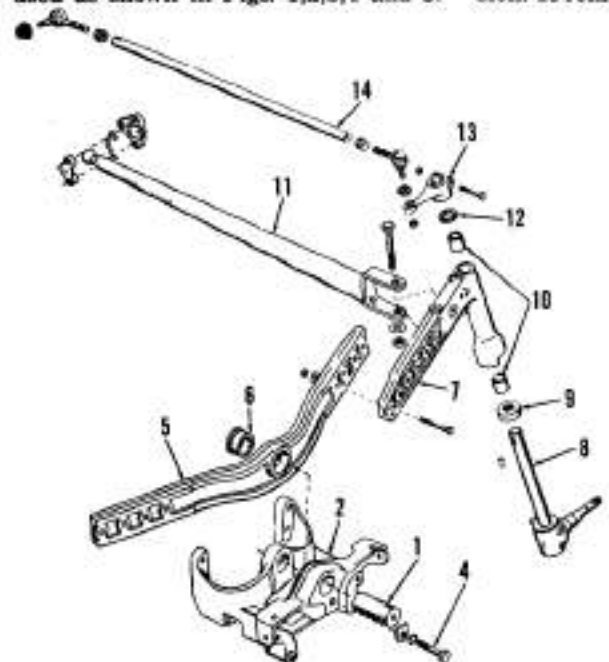

Fig. 1—Exploded view of swept back axle used on some MF230 and MF235 models. Refer to Fig. 2 for legend except radius rods (11).
1. Several different front axles are used as shown in Figs. 1,2,3,4 and 5.
Axle extension (7—Fig. 1,2,3 and 5) can be removed from adjustable axle models by first disconnecting drag link and/or tie rod and power steering cylinder (if so equipped) from steering arm. Remove bolts attaching axle extension to center member (5), then withdraw axle extension. To remove center member (5), first